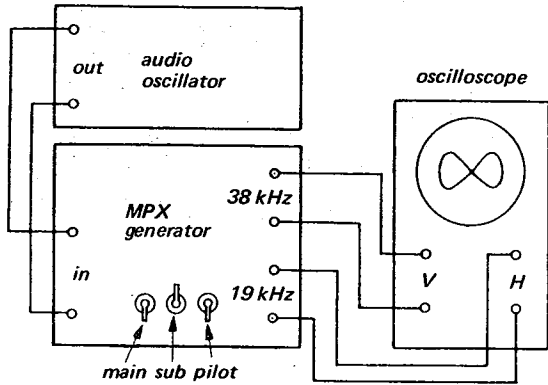

Fig. 3-6. MPX generator preadjustment
- (1) With the equipment connected as shown in Fig. 3-6, set the MPX and audio signal-generator's control as follows: